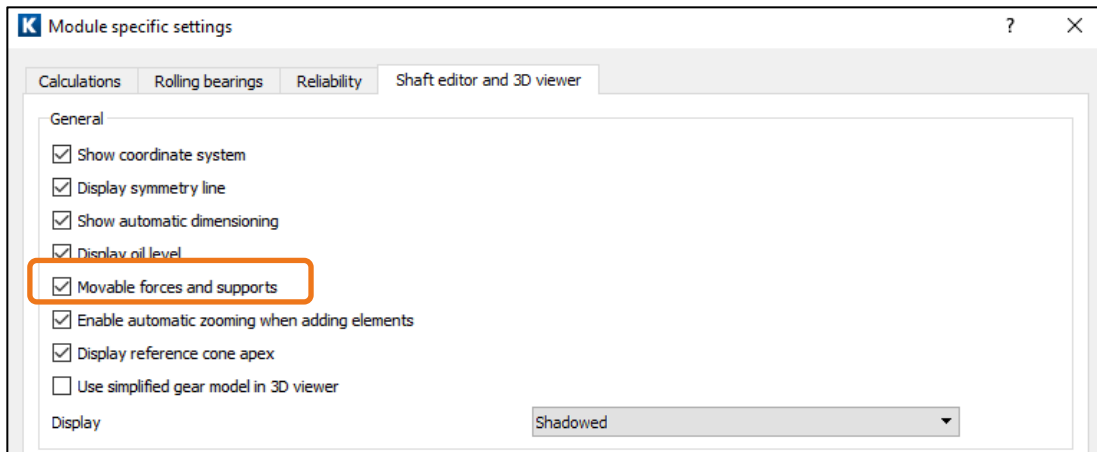

Figure 25. Setting of movable forces and supports
- Click «Shaft -editor» to examine the position of the new cross section (the cross section can also be moved using the mouse if the «Movable forces and supports» flag is set), see Figure 25.